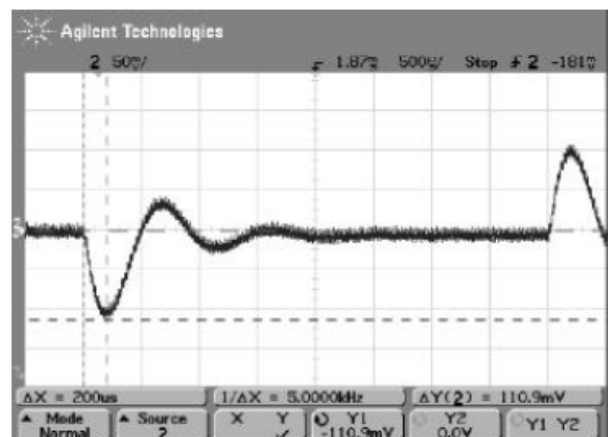

Figure 10: Output transient performance at 50% to 75% step load, $V_{IN} = 48\text{ Vdc}$.
6. Refer to the output transient characteristics on Figures 10. For 100% to 0% step load deviation – a min of 660uF capacitor on the output is required to prevent the module into going OVP.